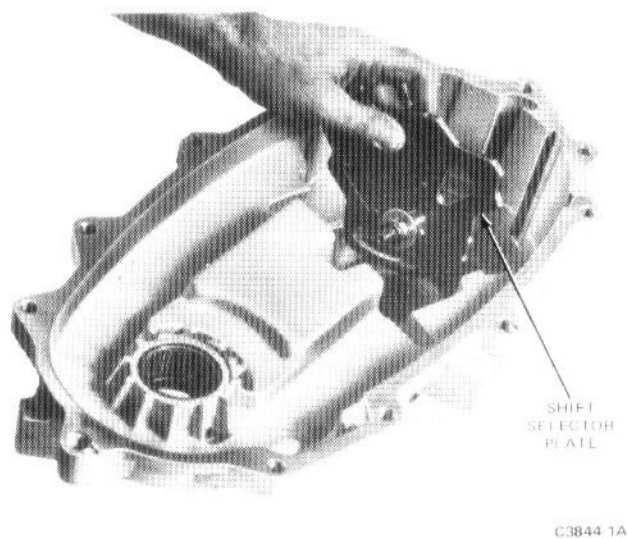

FIG. 18 Removing Shift Selector Plate
19. Remove the nut retaining the external shift lever and washer. Press the shift control shaft inward and remove the shift selector plate and washer from the case (Fig. 18).